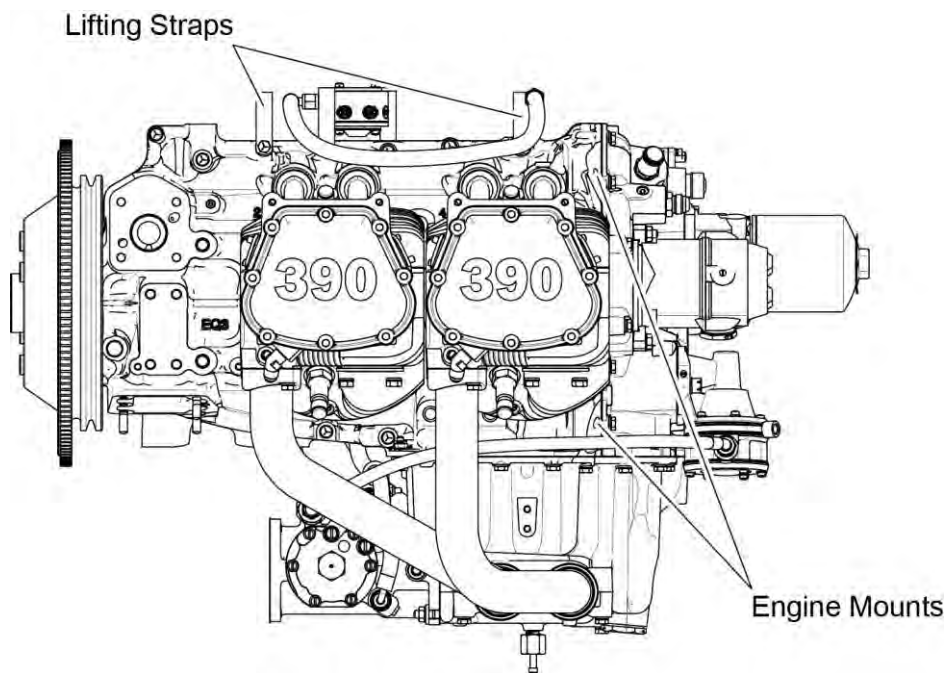

Figure 1
- M. Attach an engine-lifting cable (with a minimum capacity of 750 lb (340 kg)) to the lifting straps on the engine in accordance with Figure 1.